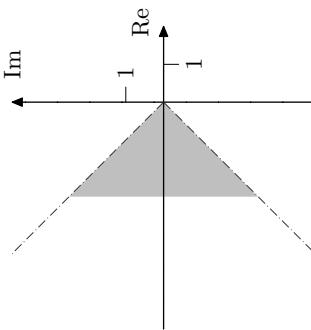

Figure 3.1c
- Assume that we use proportional control, that is, $F(s) = K$. How large gain, K , can we select if we want all poles of the closed loop system to be in the area shown in Figure 3.1c?
grey area in Figure 3.1c. Poles in this region corresponds to an overshoot of less than 5% (the overshoot may also be affected by the zeros).